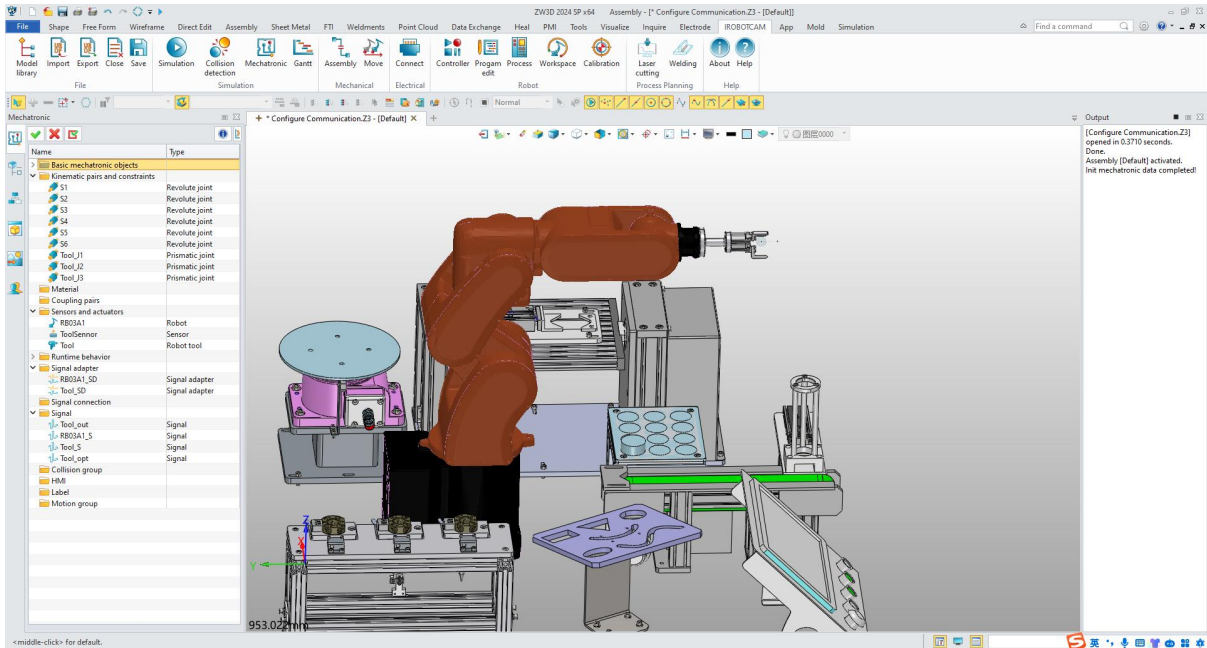

Figure 12-3: Component details
- Wait for the model to import. Once complete, there is a message will appear in the red box below the output box on the right. (Figure 12-3)